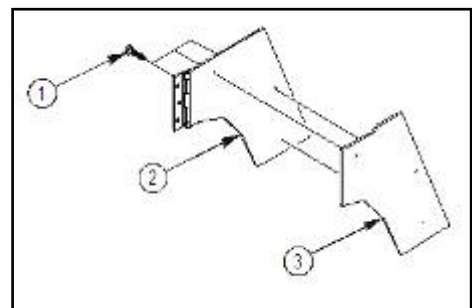

Figure 33a
10. Remove three capscrews (1) and fuel door aluminum overlay (3) from fuel door armor (2) as shown in figure 33a. Discard capscrews (1).